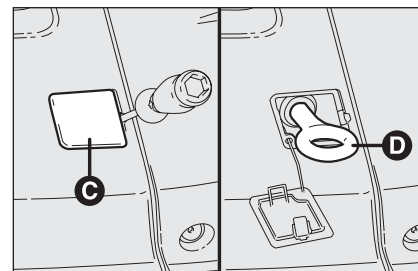

fig. 48
- ❑ take the screwdriver from the tool compartment and lever in the point shown to raise the cap **C-fig. 48**;
- ❑ Take the tow ring **D** from the tool compartment and screw it on the threaded pin **fig. 48**.